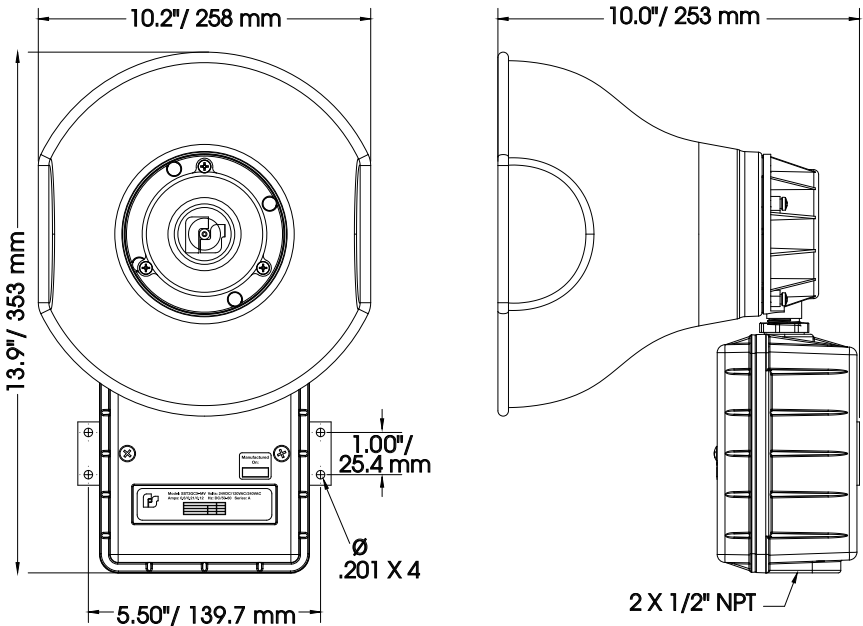

Figure 1 Mounting Dimensions
- b. Using the mounting holes as a template, scribe drill position marks on the mounting surface. See Figure 1 for mounting hole spacing.